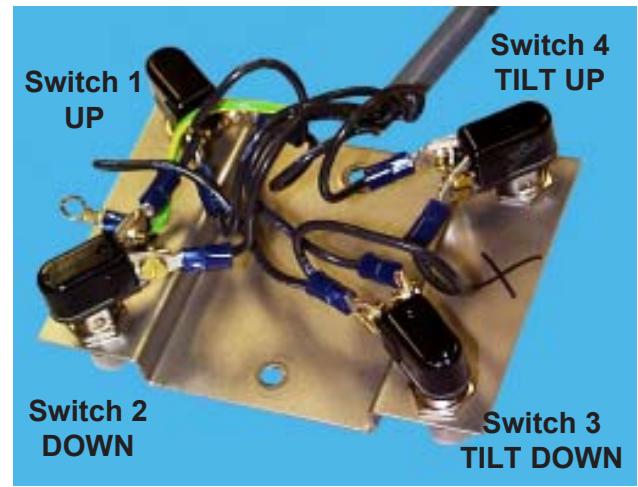

Figure 22. Switch Plate
3. Refer to Figures 22 and 24, and locate the switch you want to replace. For example, if the **TILT DOWN** function is not working, you would replace Switch **3** (the lower-right switch in the figure).
2. Place the switch into the switch plate oriented as shown in Figure 22.